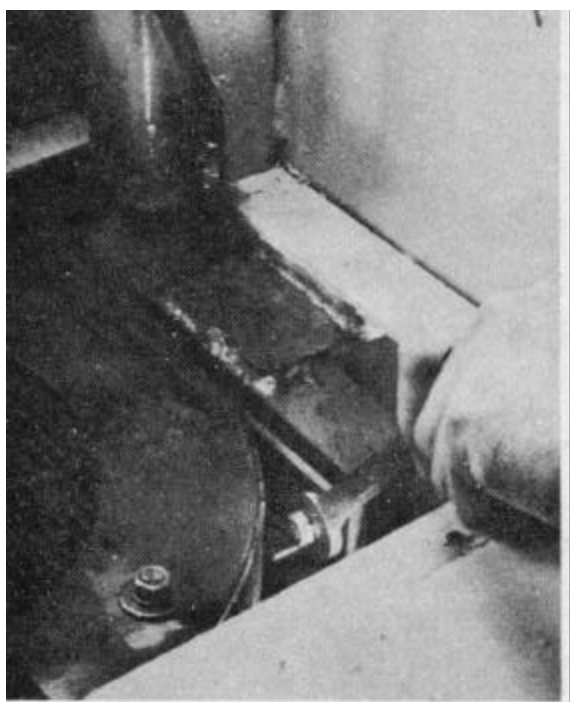

Figure 5-118
5. Attach a sling by means of an overhead crane to the pump motor assembly. Then remove the two nuts at the upper end of the pump motor mounting brackets (Fig. 5-118).